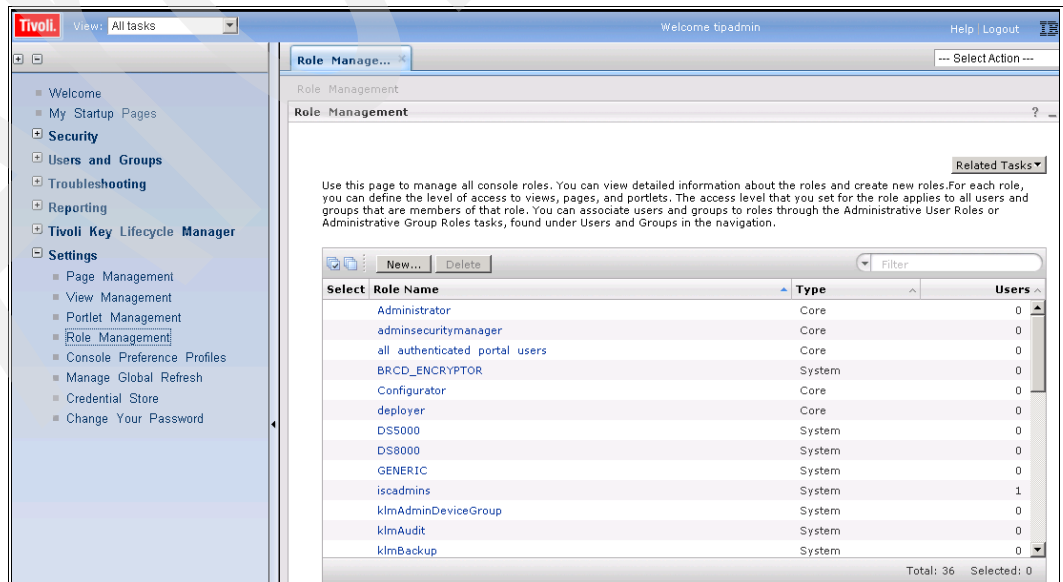

Figure 9-34 Role management panel
4. On the **Role Management** panel, click **New** (Figure 9-34).